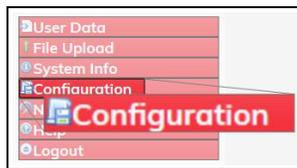

Figure 69: Configuration link
4. On the **Menu** list, click the **Configuration** link. Figure 69